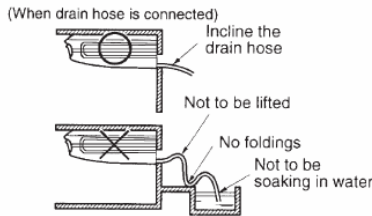
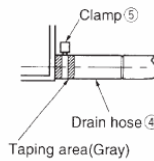

Fig.12
Fig.13
- Keep the drain pipe short and incline downwards at a gradient of at least 1/100 to prevent air pockets. (Refer to Fig.12)
- Use the attached drain hose ④ and clamp ⑤ .
- Insert the drain hose completely into the drain socket. Tighten the clamp within the range of gray tape until the screw head is less than 4mm from the hose. (Refer to Fig.13,14)